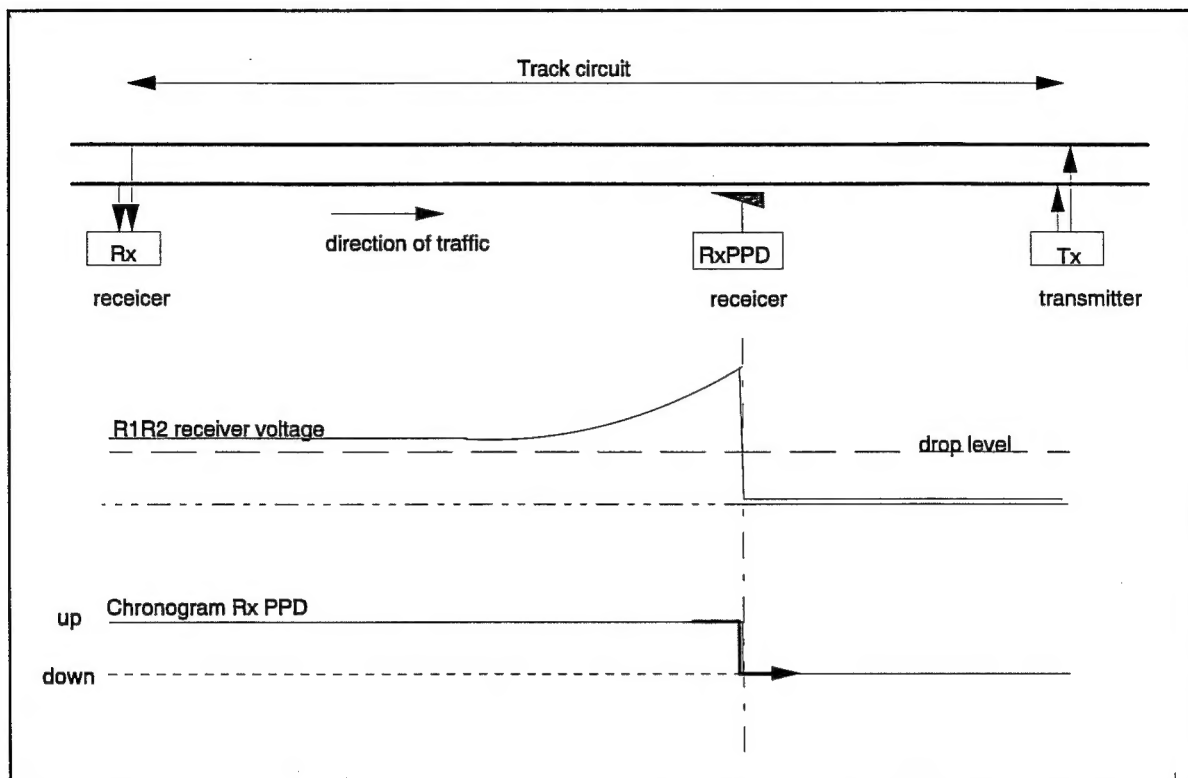

Figure 23 - Shunt efficiency
4.8.2.3 Shunt efficiency (fig.23)